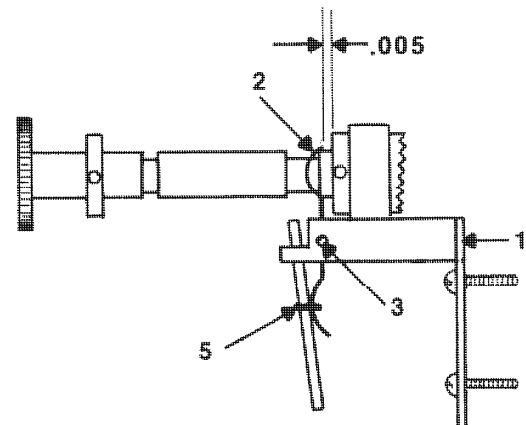

Figure 3
3. Install part #5 as shown in Figure 3.